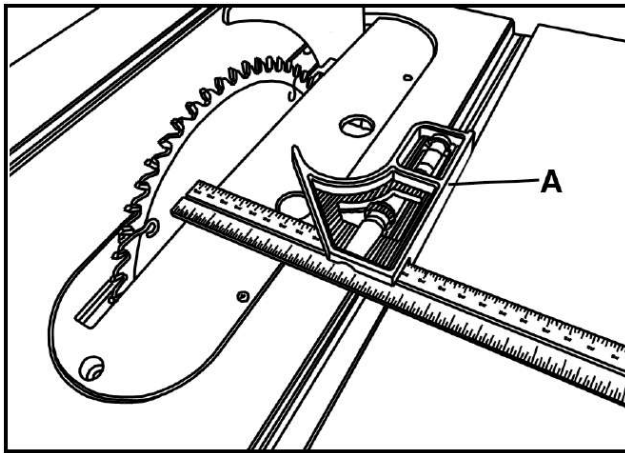

Fig.24
1. The table T-slot must be aligned parallel with the blade. Using a combination square (A) as **Fig.24**, measure the distance from the back edge of the blade to the table T-slot. Pivot blade forward 180° and remeasure the distance using the exact same point on the blade. The difference between both measurements must be less than 0.2mm.